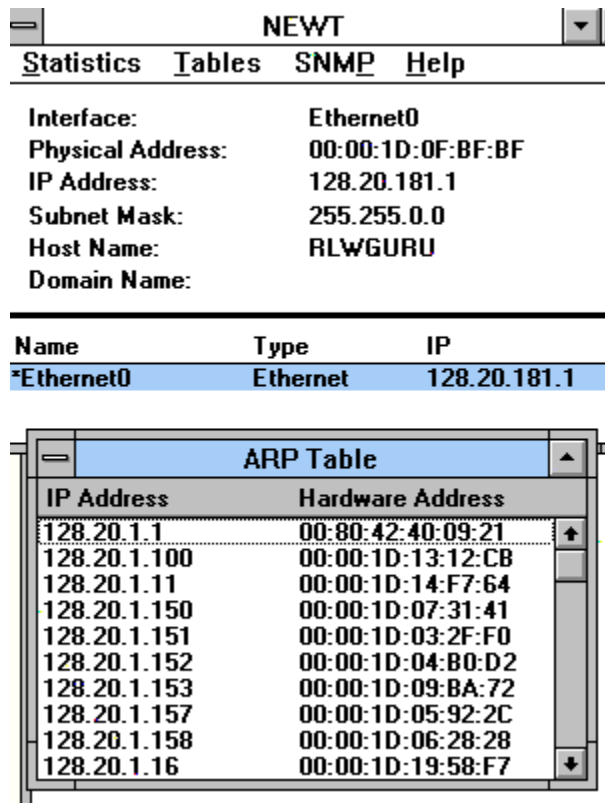

Figure 3-1. Netmanage NEWT Table and ARP Table Screens
1. Display the Netmanage NEWT table (Figure 3-1) by double clicking on the minimized NEWT icon, which is in the background when SPEL or RLVW 2.10 is opened.
For example: Refer to the ARP Table shown in **Figure 3-1** and assume that the IP address for the device is 128.20.1.100. The associated hardware address is 00:00:1D:13:12:CB.